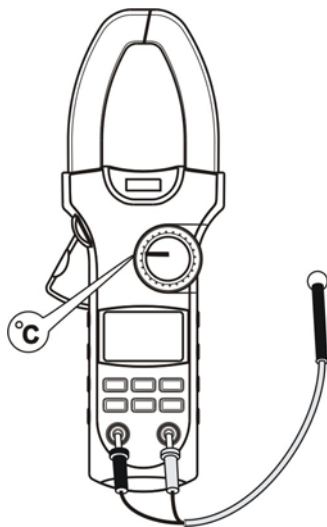

Figure 9
G. Temperature Measurement (UT208A only, see figure 9)